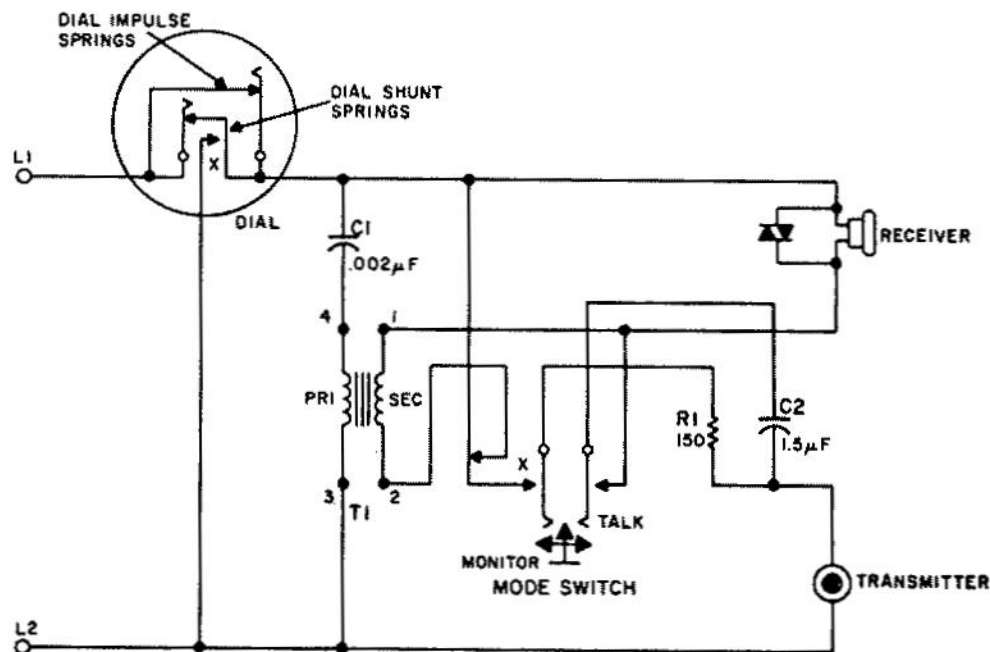

Figure 2. Schematic of Type 801 Hand Test Telephone.
2.08 All major subcomponents of the hand test telephone such as the dial, main terminal board, transformer, and mode switch are wired for easy replacement in servicing. In addition, the standard transmitter and receiver are easily replaceable modules. The hand test telephone, shown schematically in Figure 2, can be equipped with one of several connecting cords that enable it to be connected to a line outside the central office, a test jack at the switch room in the central office, or a switchboard jack. The cords are described in parts 3 and 6.